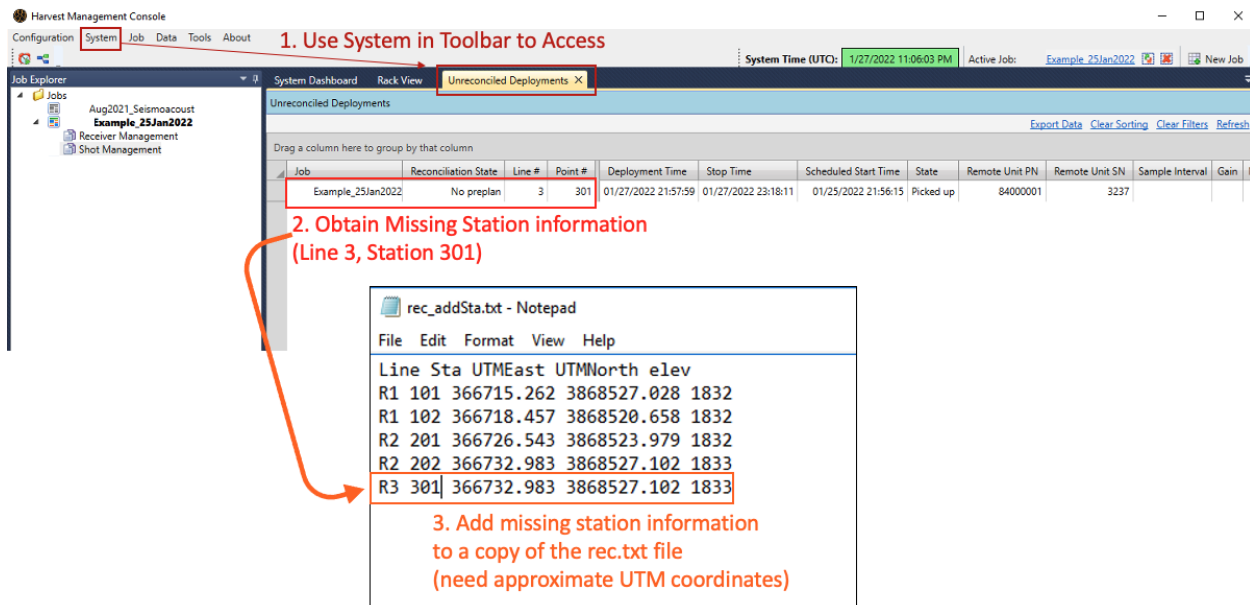

Figure 4-2 How to access Unreconciled station information, and how to edit the receiver station file.
Check all stations were associated with the Job via *System > View Unreconciled Deployments*. If there is anything listed for this Job (as shown in Fig 4-2), see the instructions immediately below for 'ADDED in the field' nodes.
3.2 Create and edit a copy of the rec.txt file in the original System(C:) > Jobs > Your_job_folder. As shown in Figure 4-2, add the Unreconciled station information to this file. If location overlaps with another station, that's ok, just note which station(s) to add for the following steps.